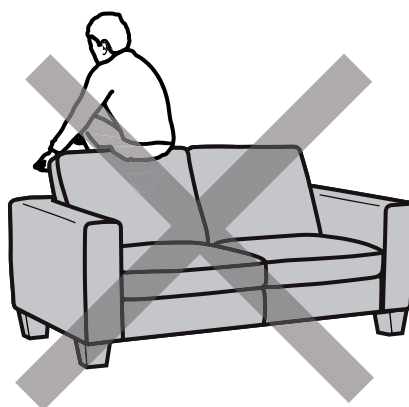

Fig. 3
- Do not sit on the arms and/or the back. (Fig. 1 Fig. 3)